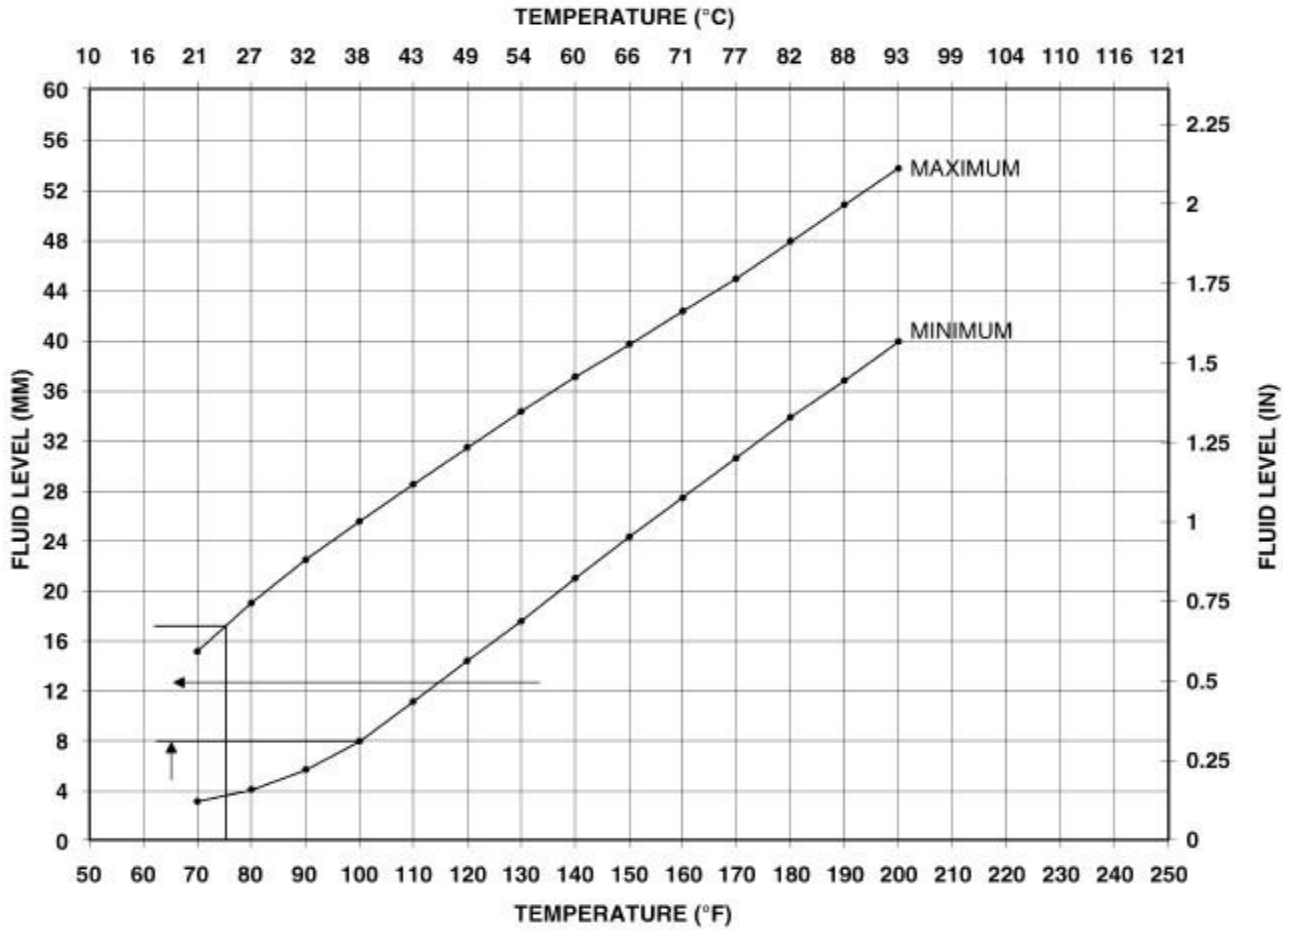

Figure 38 – Fluid Temperature/Level Chart
8. The transmission Oil Dipstick 9336A has indicator marks every 10 mm. Determine the height of the oil level on the dipstick and using the height, the Transmission Fluid Temperature (TFT) as viewed with the scan too, and the Transmission Fluid Graph, determine if the transmission oil level is correct (Figure 38).